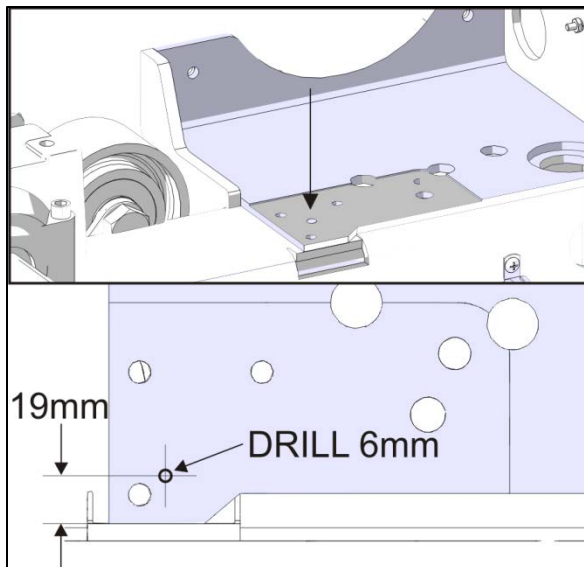

FIGURE 3
- 1.4. Remove and reserve the locking tabs. (Figure 3)